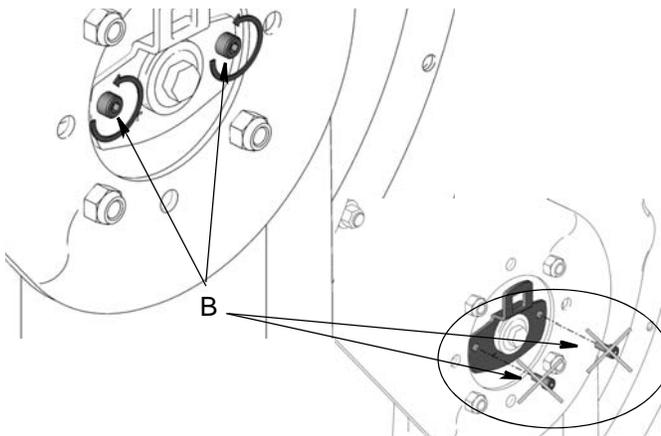

FIG. 12
2. If they are not already loose, loosen (B) 3-5 turns. Do not remove (B) yet (FIG. 12).